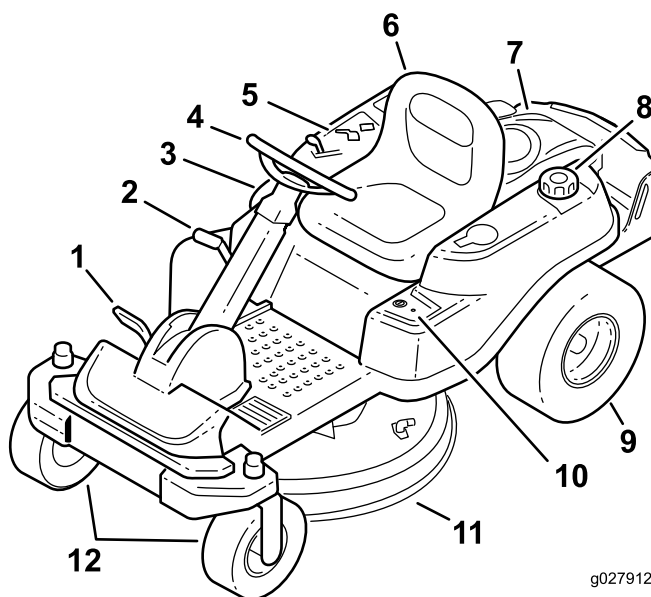
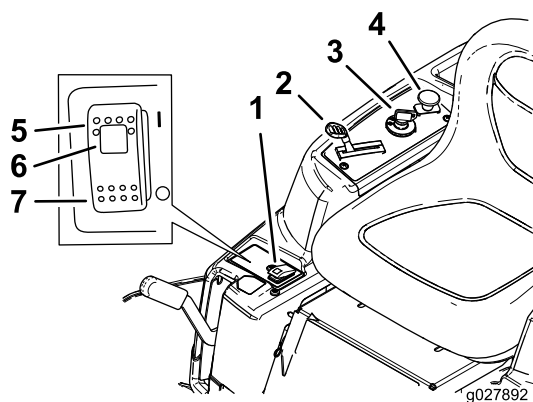
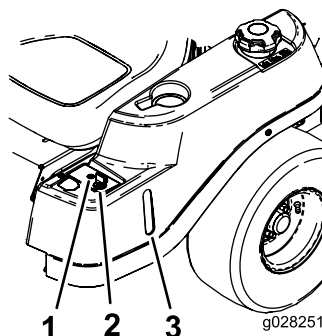

Figure 4
Figure 5
Figure 6
Become familiar with all controls in Figure 4, Figure 5, and Figure 6 before you start the engine and operate the machine.
The throttle and choke controls are combined into 1 control lever. The throttle controls the engine speed and has a continuous-variable setting from SLOW to FAST. Engage the choke by moving the lever past the FAST setting until it stops (Figure 5).
The blade-control switch (PTO) engages and disengages power to the mower blades (Figure 5).
The fuel window, located on the left side of the machine, can be used to verify the presence of fuel in the tank (Figure 6).
This switch allows you to mow in reverse when it is activated. To activate it, turn the switch to the ON position and release it after the PTO is engaged. To deactivate it, disengage the power takeoff (PTO) (Figure 6).
- Pressing the Smart Park™ switch to the ON position (Figure 5).